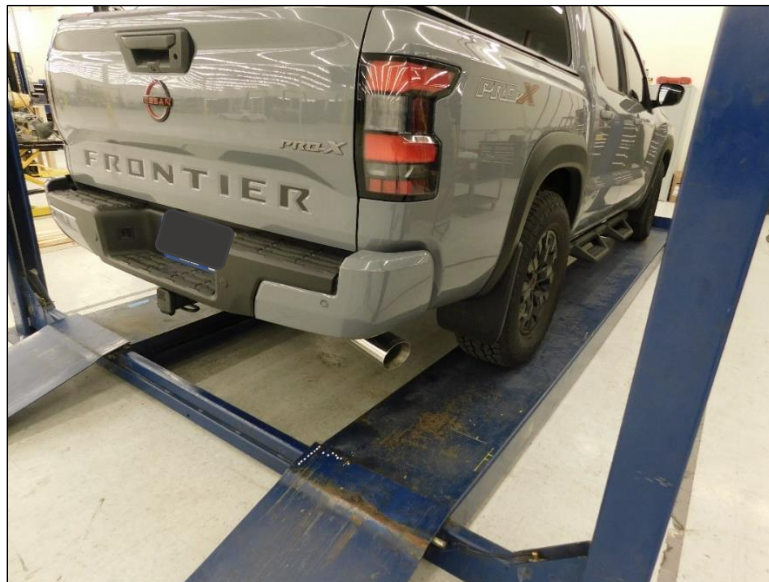

Figure 6
11. Install the tailpipe (5) over the axle **Fig.5**. Install the hanger rod at the back of the tailpipe into the tailpipe hanger isolator on the frame rail. **Fig.6**